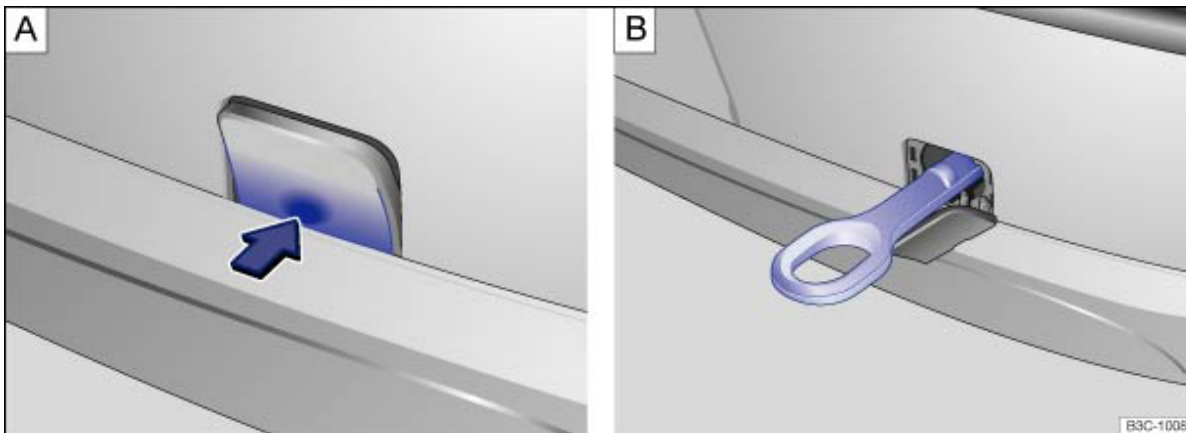
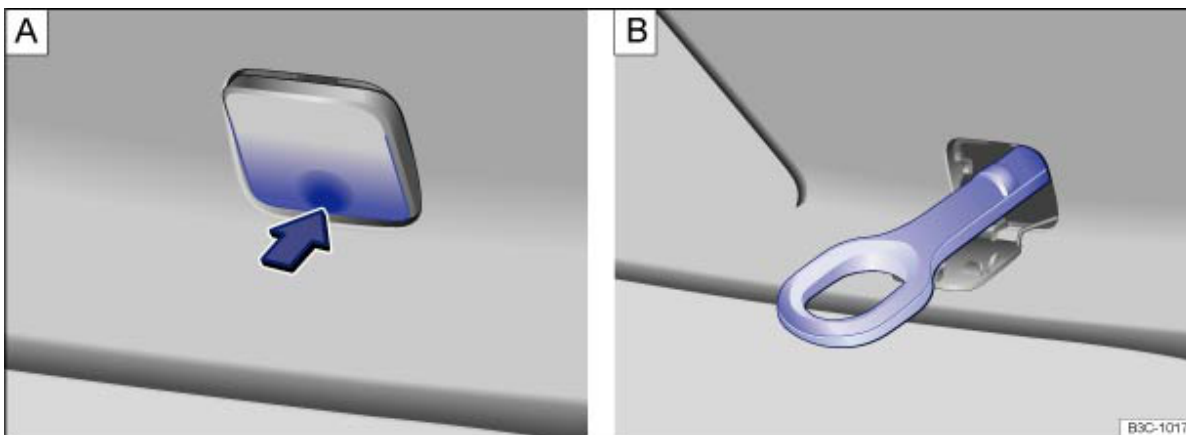

Fig. 257 In the front bumper, right-hand side (variant 1): removing the cover (A) and the inserted towing eye (B)
Fig. 258 In the front bumper, right-hand side (variant 2): removing the cover (A) and the inserted towing eye (B)
The towing eye is screwed into a threaded hole behind a cover on the right of the rear bumper → *Fig. 257* or → *Fig. 258*. In *vehicles with a factory-fitted towing bracket* there is **no** mounting for the removable towing eye behind the cover. To tow start, fit and use the ball coupling → *Towing a trailer*, → .
- Press the bottom of the cover → *Fig. 257 A* or → *Fig. 258 A* in the direction of the arrow to release the cover.